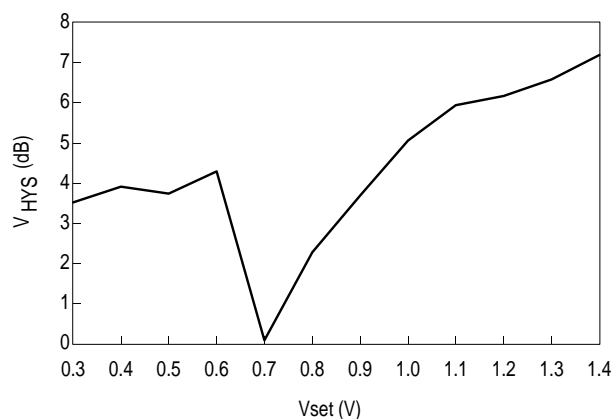

Figure 3. LOS Hysteresis ($T_A = 25^\circ\text{C}$)
2. This device has an anomaly in V_{HYS} when $0.65 < V_{SET} < 0.75\text{V}$. Operation in this region is not recommended. (See Figure 3)